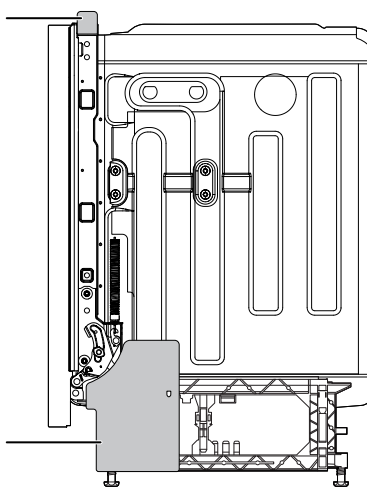

**Figure: 2**
- Attachment 2: Use the other slit on the side shield and attach it to the hook on the front of the dishwasher. (See figure 2)